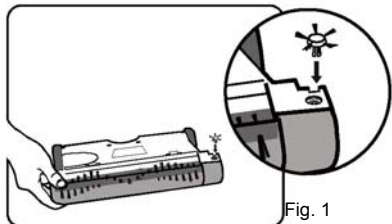

Fig. 1
1. In the event that the edging tool is not attached to the sweeper, insert the edging tool into the "square" hole under the bottom of the sweeper power head. Gently but firmly push until the edging tool locks into place. (Fig. 1)